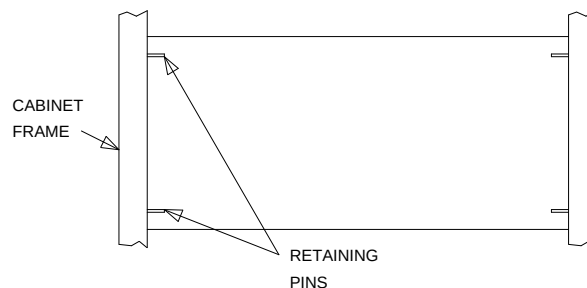

Figure 12-17. Blank Carrier Panel (Rear View)
2. Remove the blank port-carrier panel by pushing outward on panel from the rear of the cabinet until the panel clears the four retaining pins on the cabinet frame (see Figure 12-17).